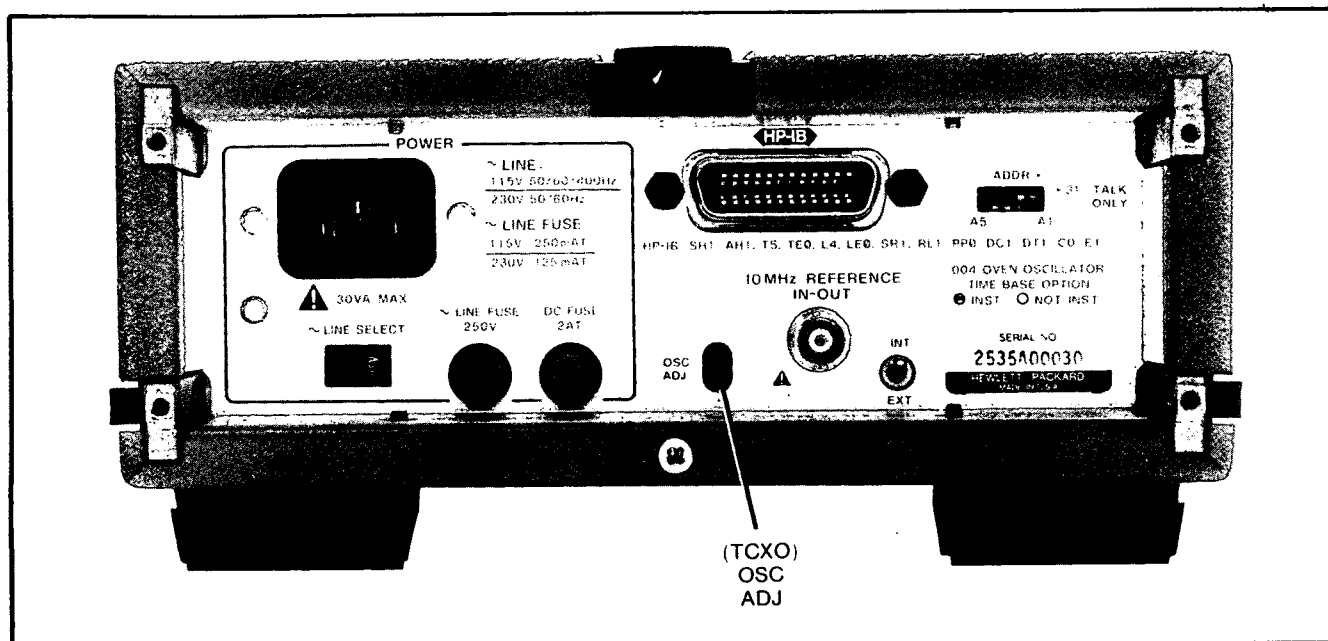

Figure 5-5. TCXO Oscillator Adjustment
- b. Connect the HP 5386A rear panel 10 MHz REFERENCE IN OUT to the channel A input of the HP 1740A oscilloscope as shown in Figure 5-5.
- c. Select INT with the 10 MHz REFERENCE INT EXT select switch on the rear of the instrument (see Figure 5-5).
d. Adjust the frequency for minimum sideways movement of the 10 MHz signal with the OSC ADJ located on the rear of the instrument (see Figure 5-5).